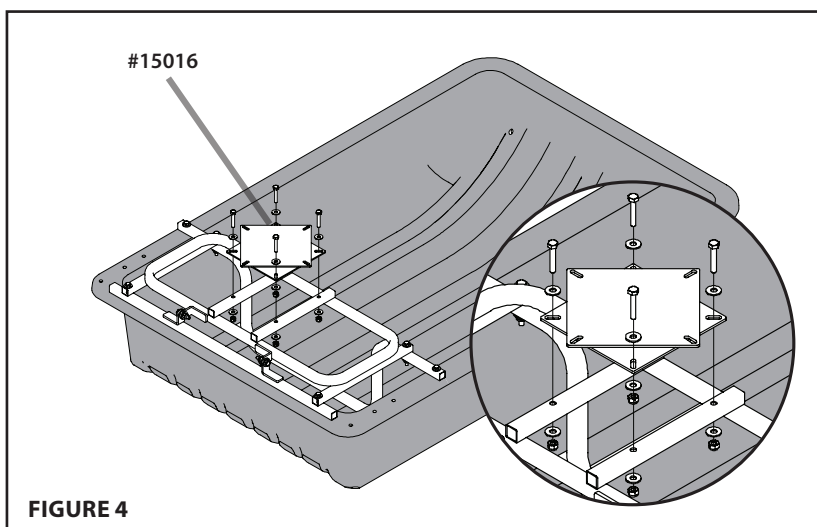

FIGURE 4
4. [FIGURE 4]
Assemble swivel versa mount (#15016) to seat platform (#21969) using (4) ¼ - 20 x 1½ bolts (#48240), (4) Nyloc nuts (#67538), and (8) ¼" washers (#48261). **NOTE: Insert bolts thread-down as shown in Figure 4.**